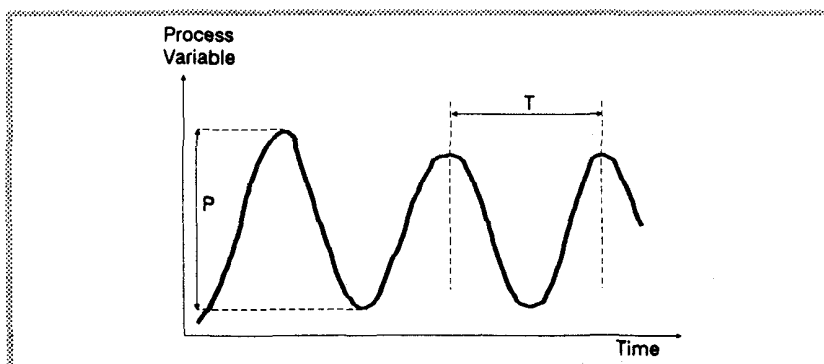

Figure 4-2 Setting-up Procedure
- (b) The cycle time (**T**) of this oscillation in minutes (see Figure 4-2).
1. Set the set point (SP) to below the normal operating process value (significantly lower if overshoot beyond this value is likely to cause damage).
5. Follow the instructions shown in Figure 4-2, allowing sufficient time at each stage before performing the subsequent stage.